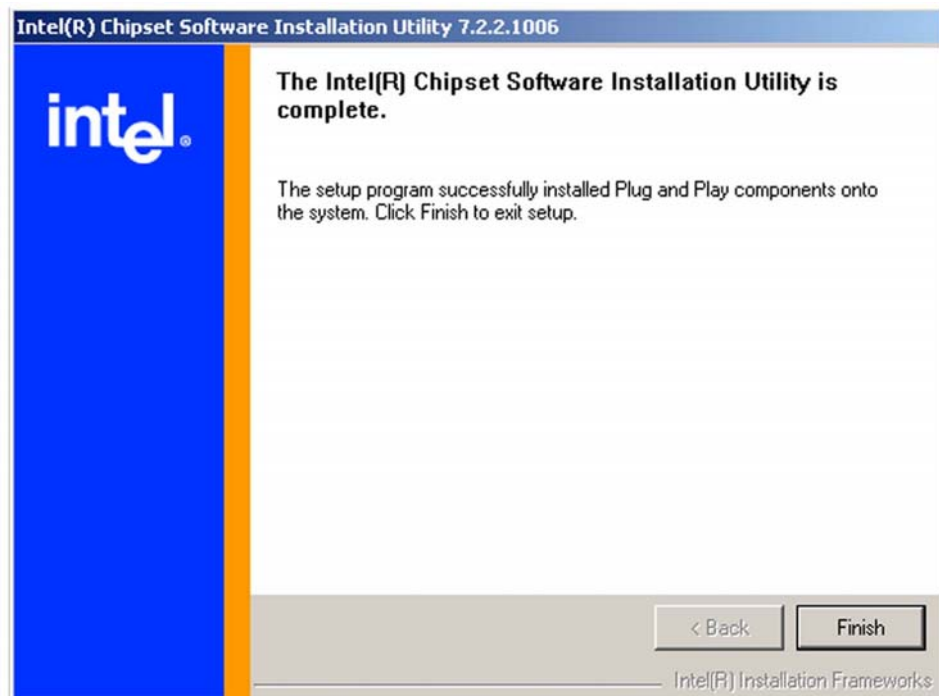

Figure 6-5: Chipset Driver Installation Complete
- Step 7:** After the driver installation process is complete, a confirmation screen shown in **Figure 6-5** will appear.